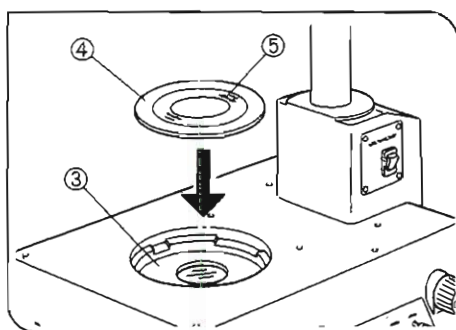

Fig. 20
- Place the polarizer ④ in the polarizer mounting hole with the arrow ⑤ facing up. (Fig. 20)
★ Set the polarizer so that the arrow ⑤ points sideways (polarizer vibration direction). (Fig. 20)